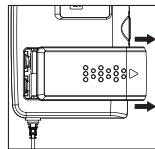

Figure 1
- (1) Slide the lid of battery tray. (Figure 1)